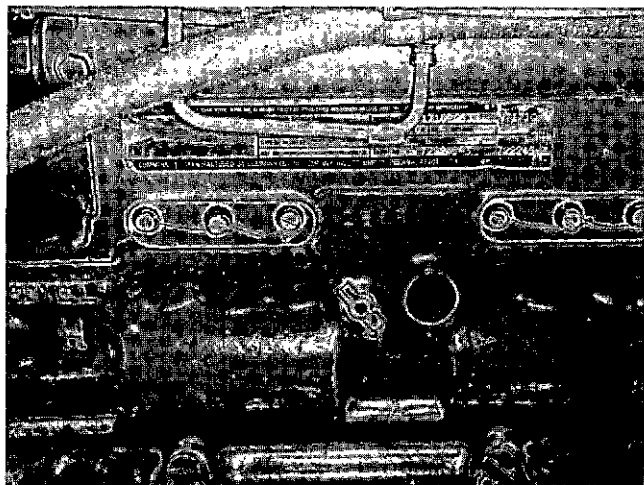

Fig. 0-2, V40079. Engine serial number plate
1. Location of engine serial number plate is shown in Fig. 0-2.